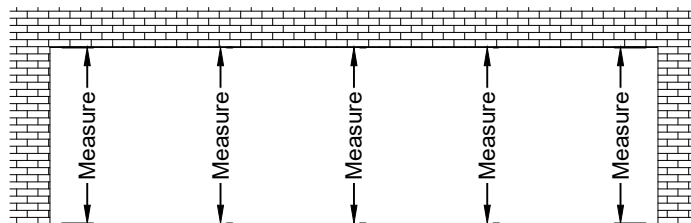

Fig. 3
- D. Measure the height of the opening (Rough Opening) at several points along the entire width of the opening. Select the smallest of these dimensions and subtract 1/2" to allow a minimum of 1/4" at the head for shim and caulking. The door frames should sit flat to the substrate. The substrate should be modified as needed to achieve a level platform for the entrance. See **Fig. 3**.